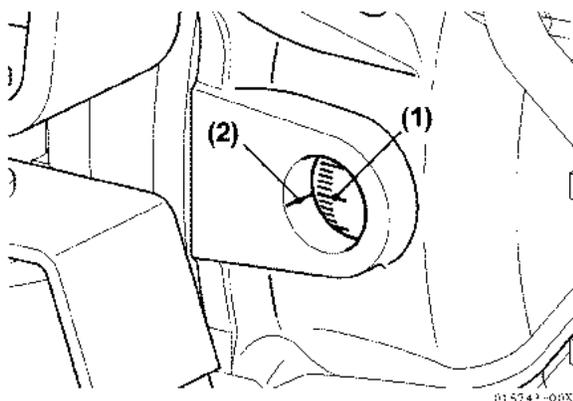

Figure 6-61
9. Highlight the target timing mark (Figure 6-61, (1)) on the flywheel as calculated in *Determining the Fuel Injection Timing Specification* on page 6-32 (FIT 18°).
12. Check the position of the previously determined flywheel target timing mark (Figure 6-61, (1)) in relation to the timing reference mark (Figure 6-61, (2)) on the flywheel housing. If the two marks are aligned, the fuel injection timing is correct. If the marks do not align, the fuel injection timing must be adjusted. See *Adjusting Fuel Injection Timing* on page 6-36.